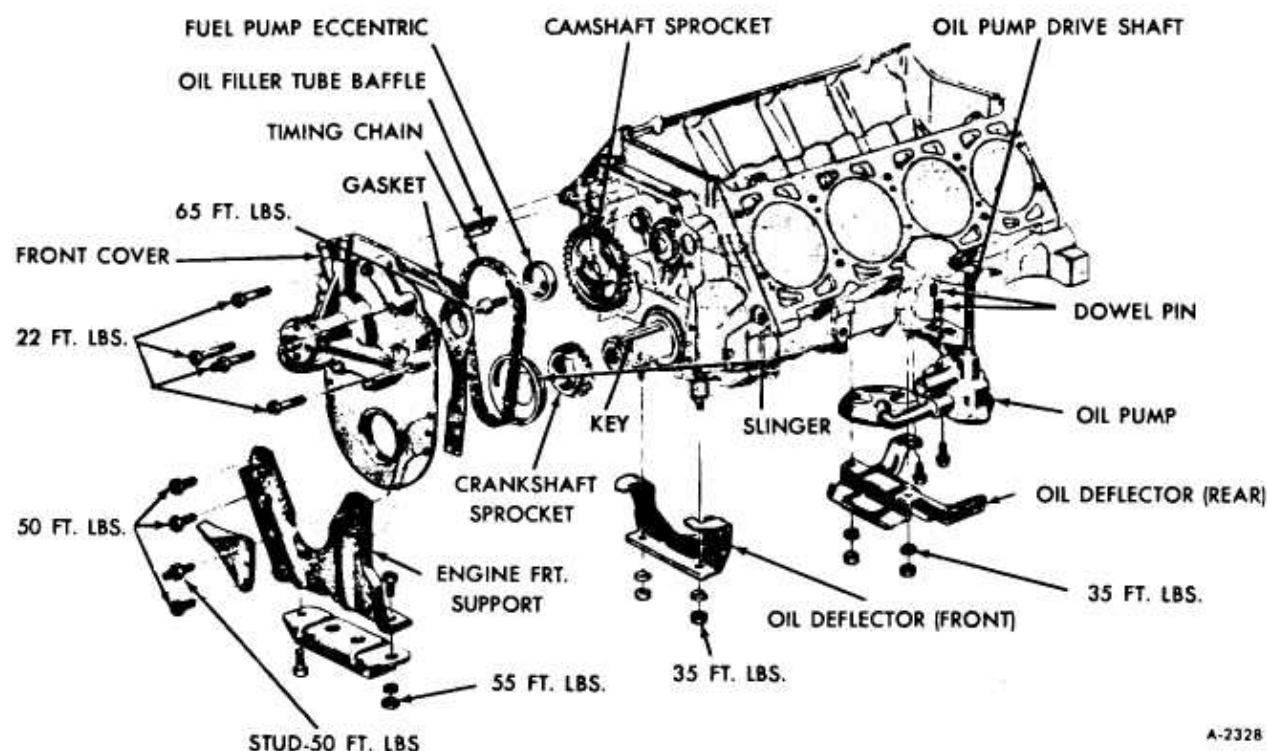

Figure 51—Engine Front Cover Exploded View
11. Remove front cover to block attaching bolts and remove front cover, timing indicator and water pump assembly (See figure 51).